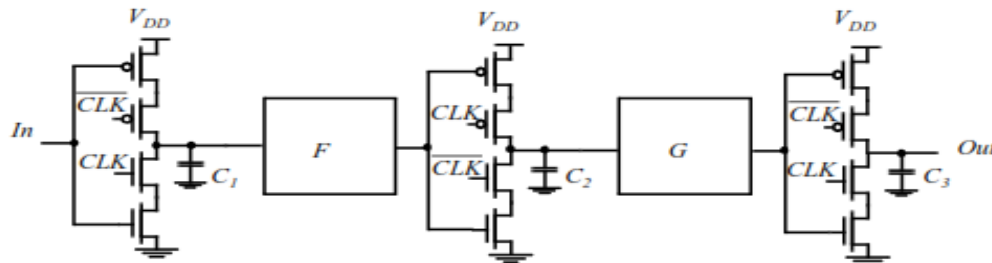

Figure 3.24 Pipelined datapath using C2MOS latches
- The latch-based pipeline circuit can also be implemented using C2MOS latches, as shown in Figure 3.24.